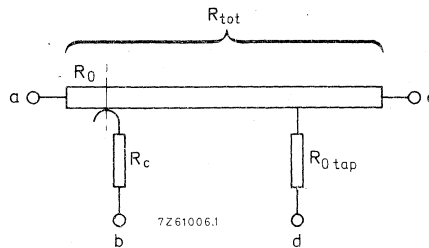

Fig. 3 Diagram of potentiometer; spindle in fully counter-clockwise position.
**Terminal resistance** — Minimum resistance that can be obtained between either end terminals (a or c) and the slider terminal b (see Fig. 3). Where there is no measurable change of resistance between the end stop and the point where the minimum effective resistance is observed, the terminal resistance and the minimum effective resistance become the same.
**Maximum attenuation** — Maximum adjustable attenuation when the potentiometer is used as an attenuator (see Fig. 3).